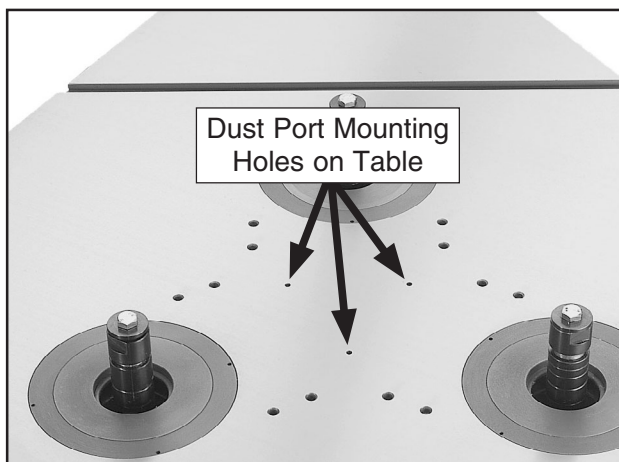

Figure 12. Location of dust hood mounting holes on the table.
1. Align the three holes in the dust hood with their mounting holes in the center of the table, then secure it to the table with the (3) M6-1 x 16 hex bolts and 6mm flat washers (see **Figures 12–13**).